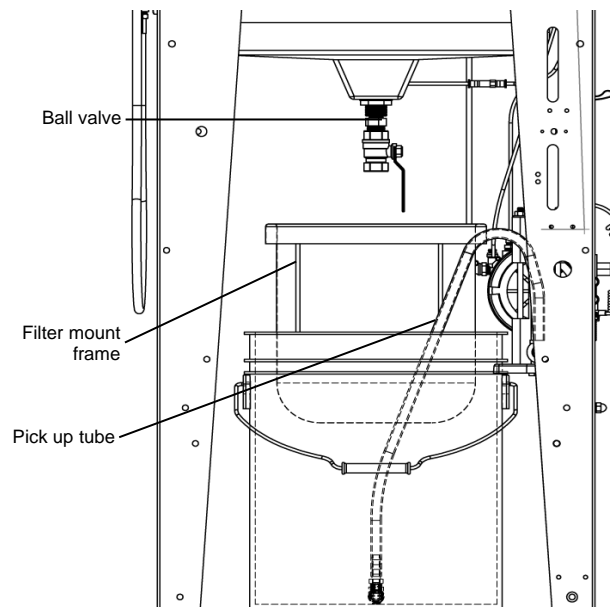

Fig. 2
- 5) Connect the air channel line to the spray gun using the supplied quick disconnects or replace the supplied quick disconnects with ones compatible with the shop's equipment. See Fig. 2